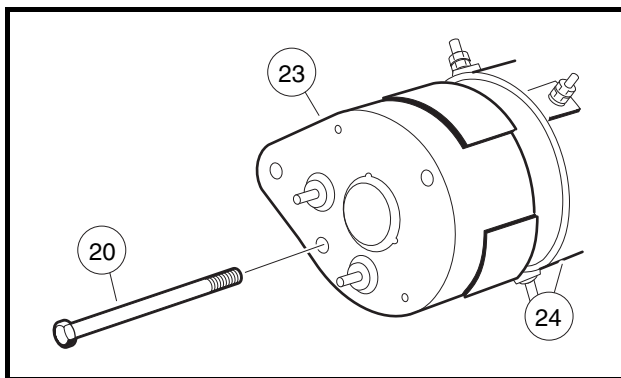

Figure 14-2 Commutator End Cover
- Remove the two bolts (20) and pull commutator end cover (23) free of starter/generator housing (24) (Figure 14-2, Page 14-2). See following NOTE.
3. Install the commutator end cover (23) onto the armature shaft. Align the locating pin with the pin hole in the cover. Install two M6 x 180 mm bolts (20) and tighten to 100 in-lb (11.3 N·m) (**Figure 14-2, Page 14-2**).
2. Remove the two bolts (20), and pull commutator end cover (23) free of the starter/generator housing (24) (Figure 14-2, Page 14-2).
9. Install the commutator end cover (23) onto the armature shaft. Align the locating pin with the pin hole in the cover. Install the two M6 x 180 mm bolts (20), and tighten to 100 in-lb (11.3 N·m) (**Figure 14-2, Page 14-2**).